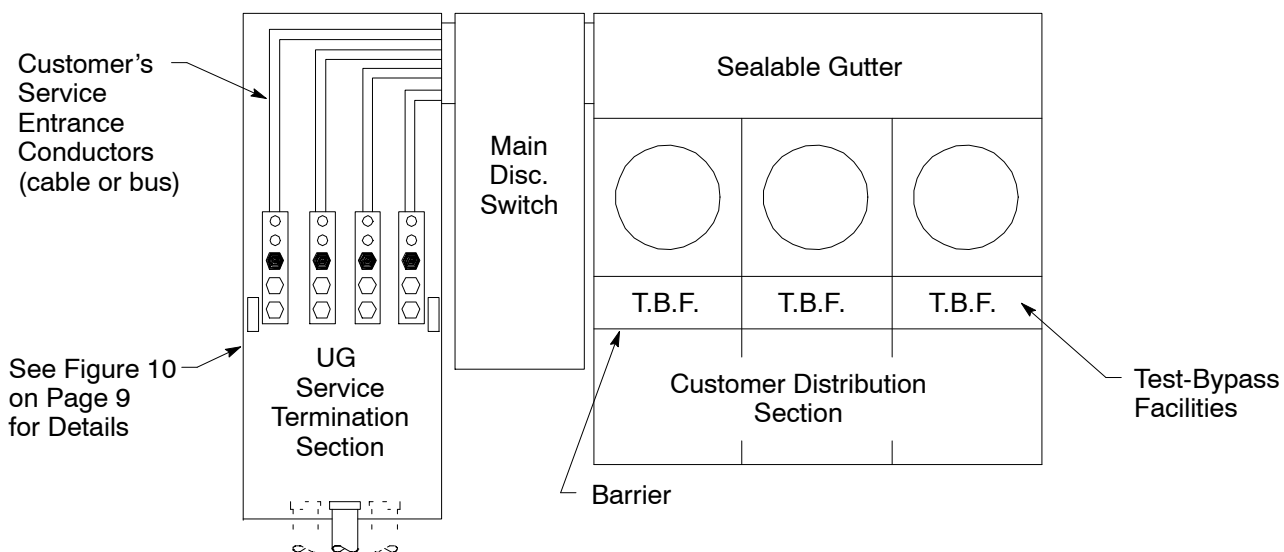

Figure 4
- (1) Aluminum termination bus stubs with NEMA standard mounting bolts (see Paragraphs 4B(3) and 4B(4)) shall be provided for the connection of service lateral conductors in customer's service equipment where the main disconnect (or service equipment rating, if there is no main disconnect) is rated more than 200 amps. PG&E will furnish and install the termination connectors.
- (2) The standard provisions for terminating either phase or neutral conductors shall consist of one pair of 1/2-inch bolts on 1-3/4 inch vertical centers for equipment rated 201 – 400 amp panels. An additional pair of 1/2-inch bolts (on 1-3/4 inch vertical centers) shall be provided on 2-inch horizontal center for each additional 400 amp increments, or multiples thereof, of service capacity up to 2,500-amp panels (e.g., 1 pair for 400 amps, 2 pairs for 600 and 800 amps, 3 pairs for 1,000 and 1,200 amps, etc.) See Figure 4 on Page 5.
- (3) Cable termination mounting bolts shall be 1/2-inch cadmium-plated steel or equivalent and shall extend a minimum of 2 inches from the mounting surface. They shall be supplied with nuts, flat washers, and a pressure maintaining spring washer and shall be secured in place in such a manner that a termination connector can be positioned and connected with the washers and nuts, using one tool only from the front. Bolts shall have a head behind the termination pad and be of a recognized captive or swedge restrainer design.
- (4) A radial clearance of 1-1/2 inch is required between any termination facility (including bolts) and any other termination facility, bus, or grounded surface in the terminal mounting area except (1) the minimum clearance to the back of the pull section or to the front pull section cover may be 1 inch and (2) the neutral termination facility may have a minimum clearance of 1 inch from any grounded surface.